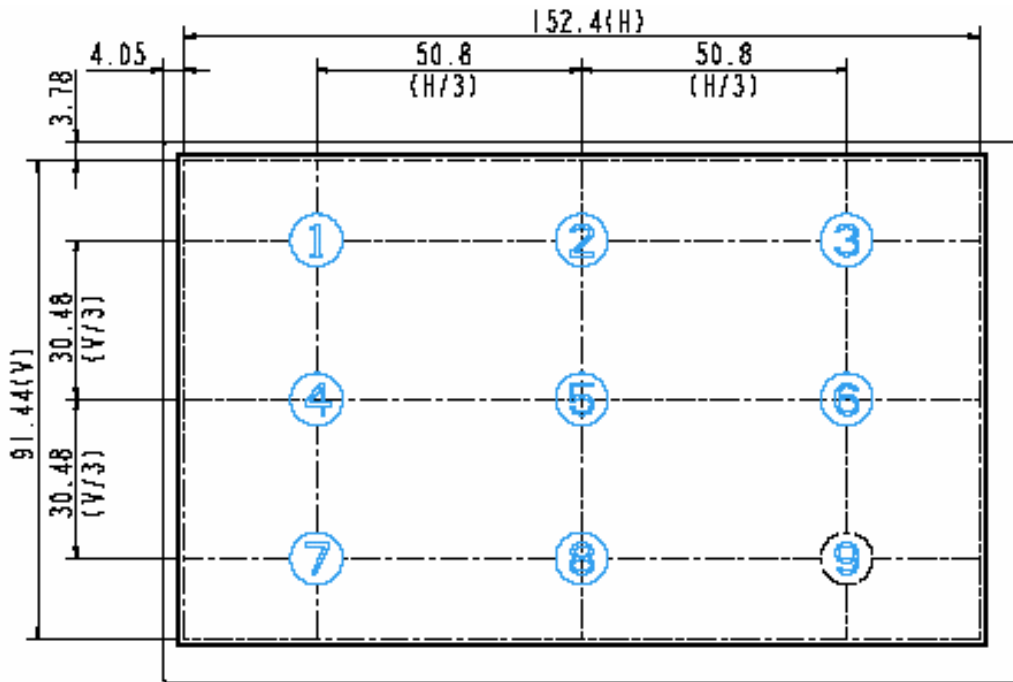

Fig8-1 Measuring point
- *3) Definition of luminance : Measure white luminance on the point 5 as figure 8-1.
Definition of Luminance Uniformity: Measure white luminance on the point1~9 as figure8-1.